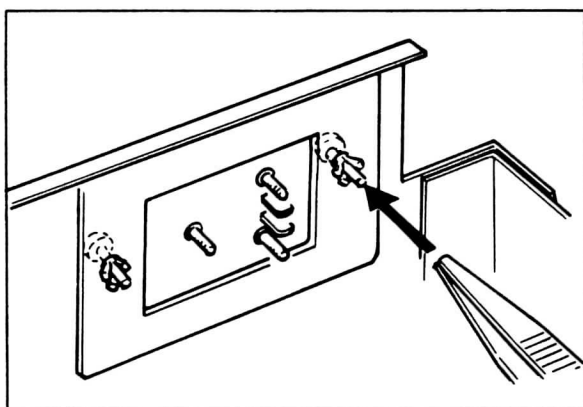

Fig. 2-7. Nylon rivet removal
2. Remove the nylon rivets securing the defective component by pushing its end with a tweezers as shown in Fig. 2-7.